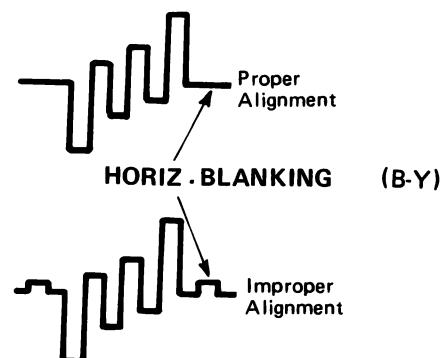

**Figure 35.**
5. Adjust LM02 so that each bar of (R-Y) and (B-Y) becomes even respectively. (Fig. 35)